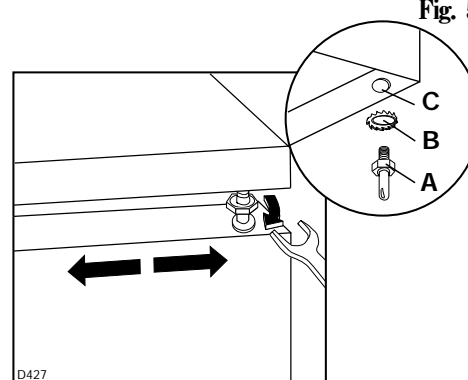

Fig. 5
Remove the door from the upper pivot (A-Fig. 5).
Remove the pivot and the washer (A+B-Fig. 5) from the upper hinge (C), then mount these on the opposite side.